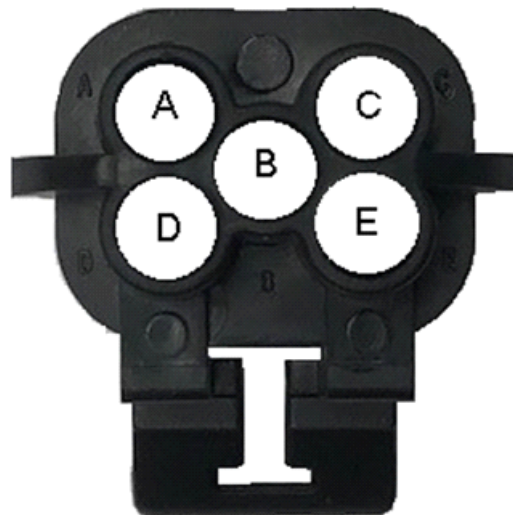

Figure 1.2
8. Pin out the connector. Refer to Figure 1.2 and Color Code below for pinout locations. After all wires are installed, use TPA lock to prevent wires from coming out of the connector and holding wire seals tightly in place.